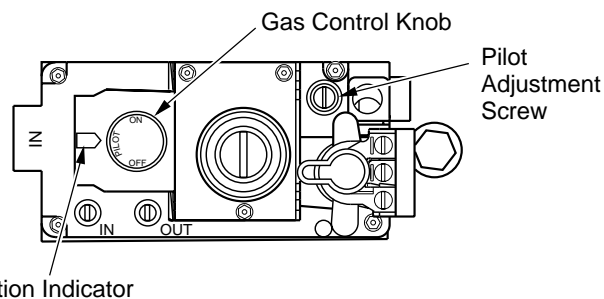

Figure 39 - Control Knob in the PILOT position
6. Turn gas control knob clockwise  to the OFF position (see Figure 39).
7. Wait five (5) minutes to clear out any gas. Then smell for gas, including near the floor. If you smell gas, **STOP!** Follow "B" in the safety information above. If you don't smell gas, go to the next step.
9. Push in the knob all the way and hold in. Immediately light the pilot manually. Continue to hold the control knob in for about (1) minute after the pilot is lit. Release knob and it will pop back up. Pilot should remain lit. If it goes out, repeat steps 5 through 9.
- Turn the adjustment screw marked pilot clockwise to decrease or counterclockwise to increase the flame to proper size (see Figure 39, page 18). Do not remove the adjustment screw.